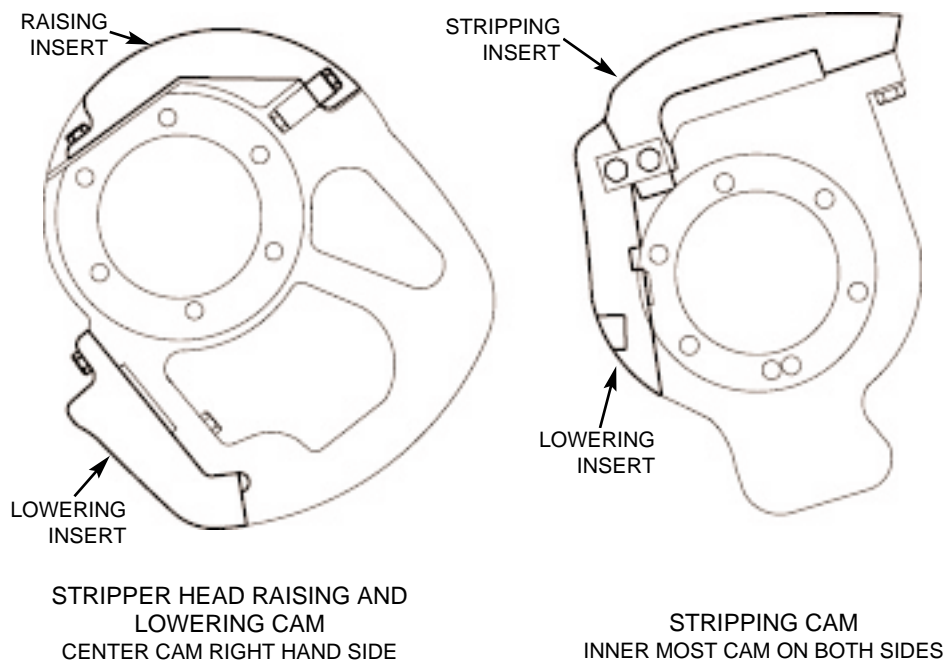

Figure 4.55 STRIPPING CAM INSERTS.
4.4.3 Remove the stripping cam insert from each side of the machine. This concrete unit is run without any stripping cam inserts (see figure 4.55).